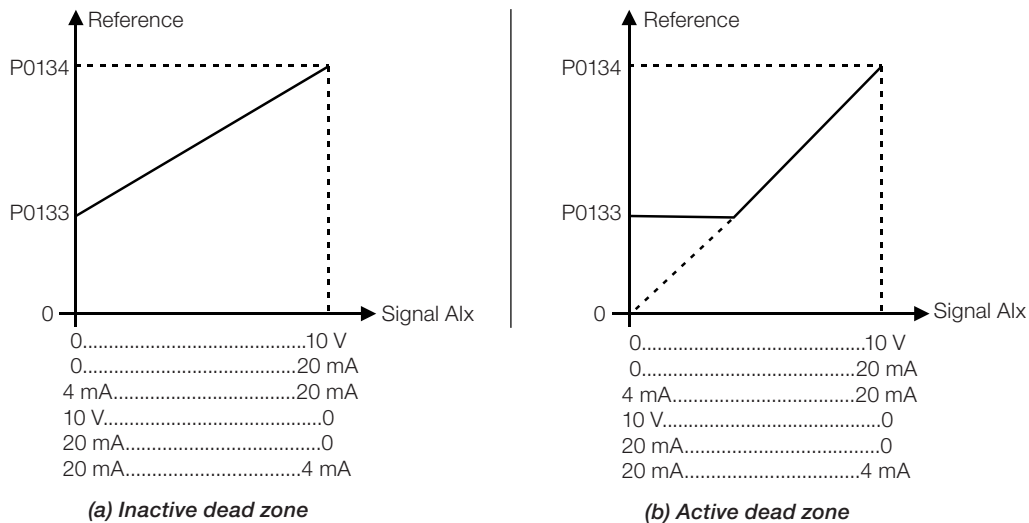

Figure 14.1: (a) and (b) Actuation of the analog inputs with inactive dead zone
If the parameter is configured as Inactive (P0230 = 0), the signal in the analog inputs will actuate on the frequency reference from the minimum point (0 V / 0 mA / 4 mA or 10 V / 20 mA), and it will be directly related to the minimum speed set in P0133. When using PID special function (P0203) via AI1 (1) or AI3 (2), PID setpoint (P0041) value goes to zero and not to the minimum speed (P0133). Check Figure 14.1 on page 14-2.
If the parameter is configured as Active (P0230 = 1), the signal in the analog inputs will have a dead zone, where the speed reference remains at the Minimum Speed value (P0133), even with the variation of the input signal. Check Figure 14.1 on page 14-2.
In the case of analog inputs AI3 set for -10 V to +10 V (P0243 = 4), we will have curves similar to Figure 14.1 on page 14-2; except that when AI3 is negative, the direction of rotation will be the opposite.